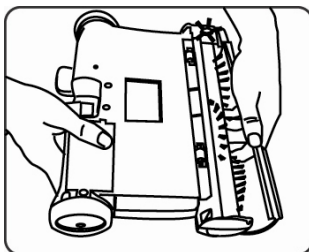

Fig. 11
- Remove the brush cover. (Fig. 11)
- Replace the brush cover (Fig. 11)
4. Periodically remove the transparent brush cover on the front of the cordless sweeper and remove any build up of lint, hair or fiber on the rotating brush. To remove the cover - grip the cover from the bottom, pull out and upward until the cover unlocks from the side slots and tabs located on the top of the sweeper. Carefully cut away threads or hair with scissors. (Fig. 11)